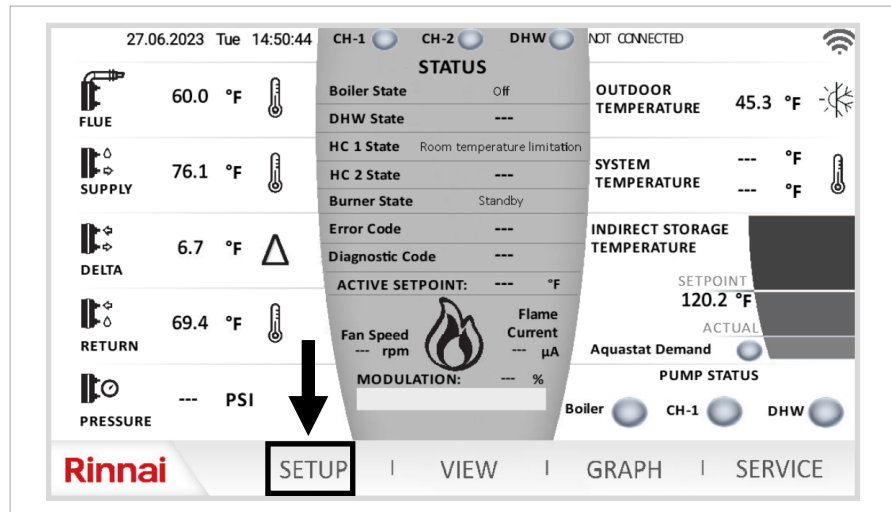

Fig 1
1. Press “Setup” on the home screen (Fig 1). The control will prompt the user to choose the access level and enter password. The password for Installer is **9419**. The Technician and Engineer user levels can ONLY be accessed by a Rinnai employee.